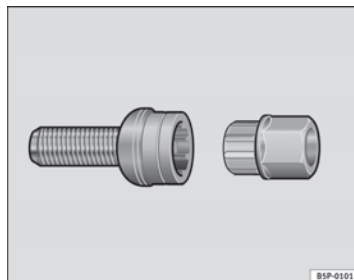

Fig. 183 Anti-theft wheel bolt
- Insert the adapter onto the wheel bolt and push it on as far as it will go ⇒ page 253, fig. 183.